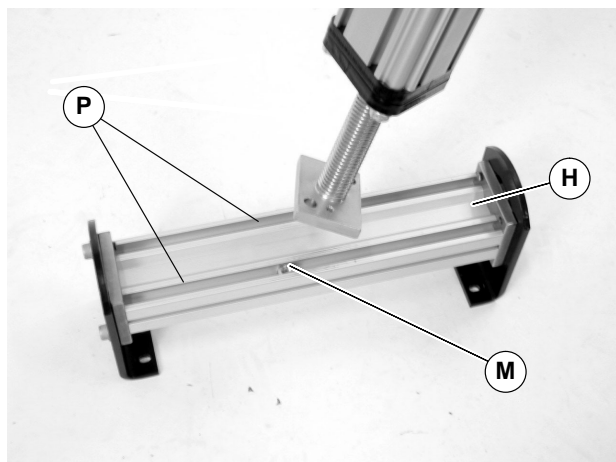

Figure 7
8. Position the conveyor mounting bracket and cross-member tube assembly (H of Figure 7) so there is access to the underside t-slots (P) and hex nuts (M).